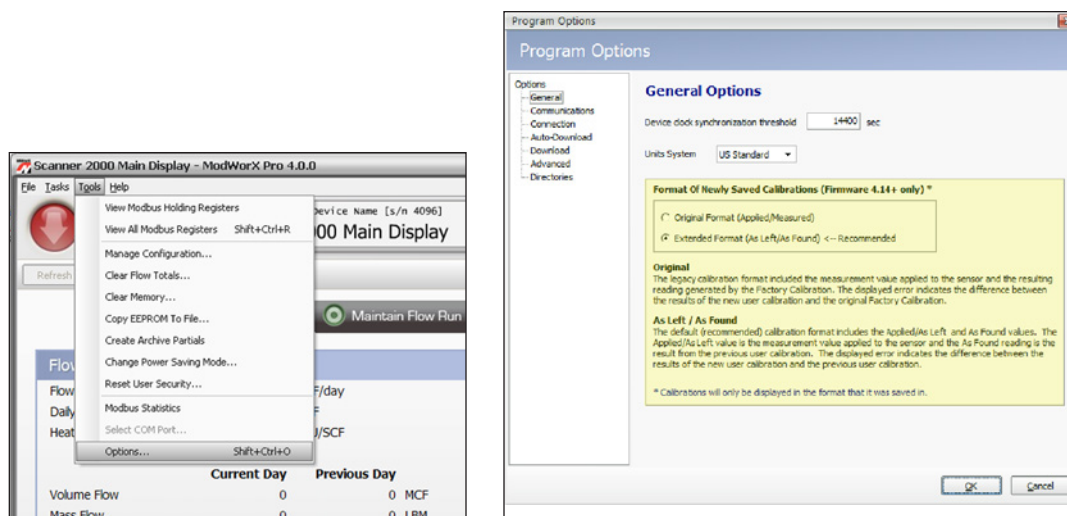

Figure A.18
1. Click **Tools>Options** in the task bar (Figure A.18, page A-13).